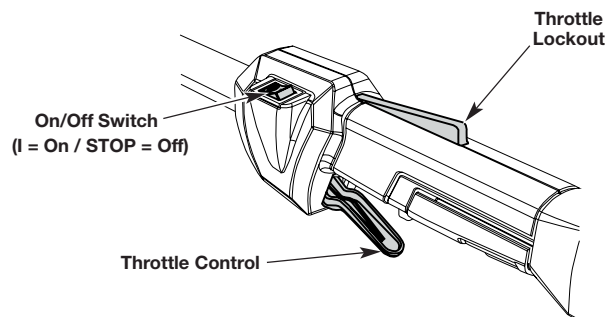

Fig. 7
NOTE: There is no need to turn the unit on. The On/Off switch is in the On (I) position at all times (Fig. 7).
7. To increase trimmer cutting speed, press and hold the throttle lockout with one hand, and then squeeze the throttle control with the other. The further you squeeze the throttle control, the more the cutting speed will increase (Fig. 7).
2. Press and hold the On/Off switch in the Off (O) position until the engine comes to a complete stop (Fig. 7). Make sure the cutting attachment has stopped before the unit is set down.